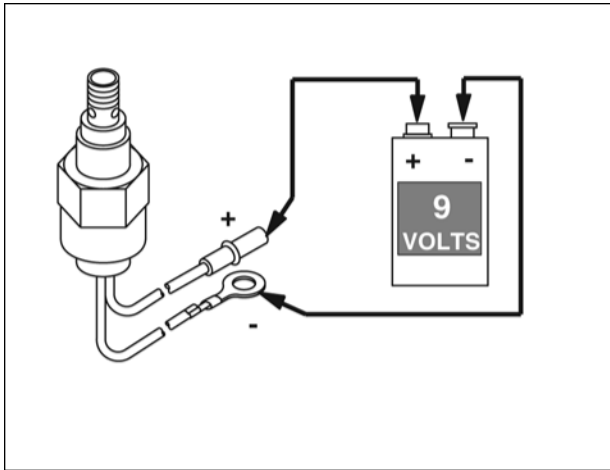

Figure 65
2. Place either terminal of a 9 volt transistor battery on the solenoid connector and other terminal on body of solenoid or ground wire (Figure 65).